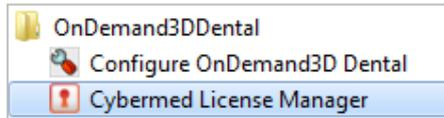

Fig. 4 Access [Cybermed License Manager]
- Go to [Start menu] -> [OnDemand3DDental] -> [Cybermed License Manager] as shown in Fig 4.